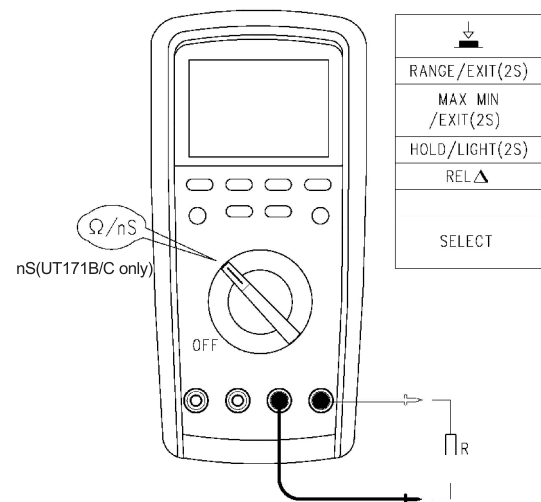

Figure 4a
2) Measuring of resistance/conductivity G (Figure 4a)